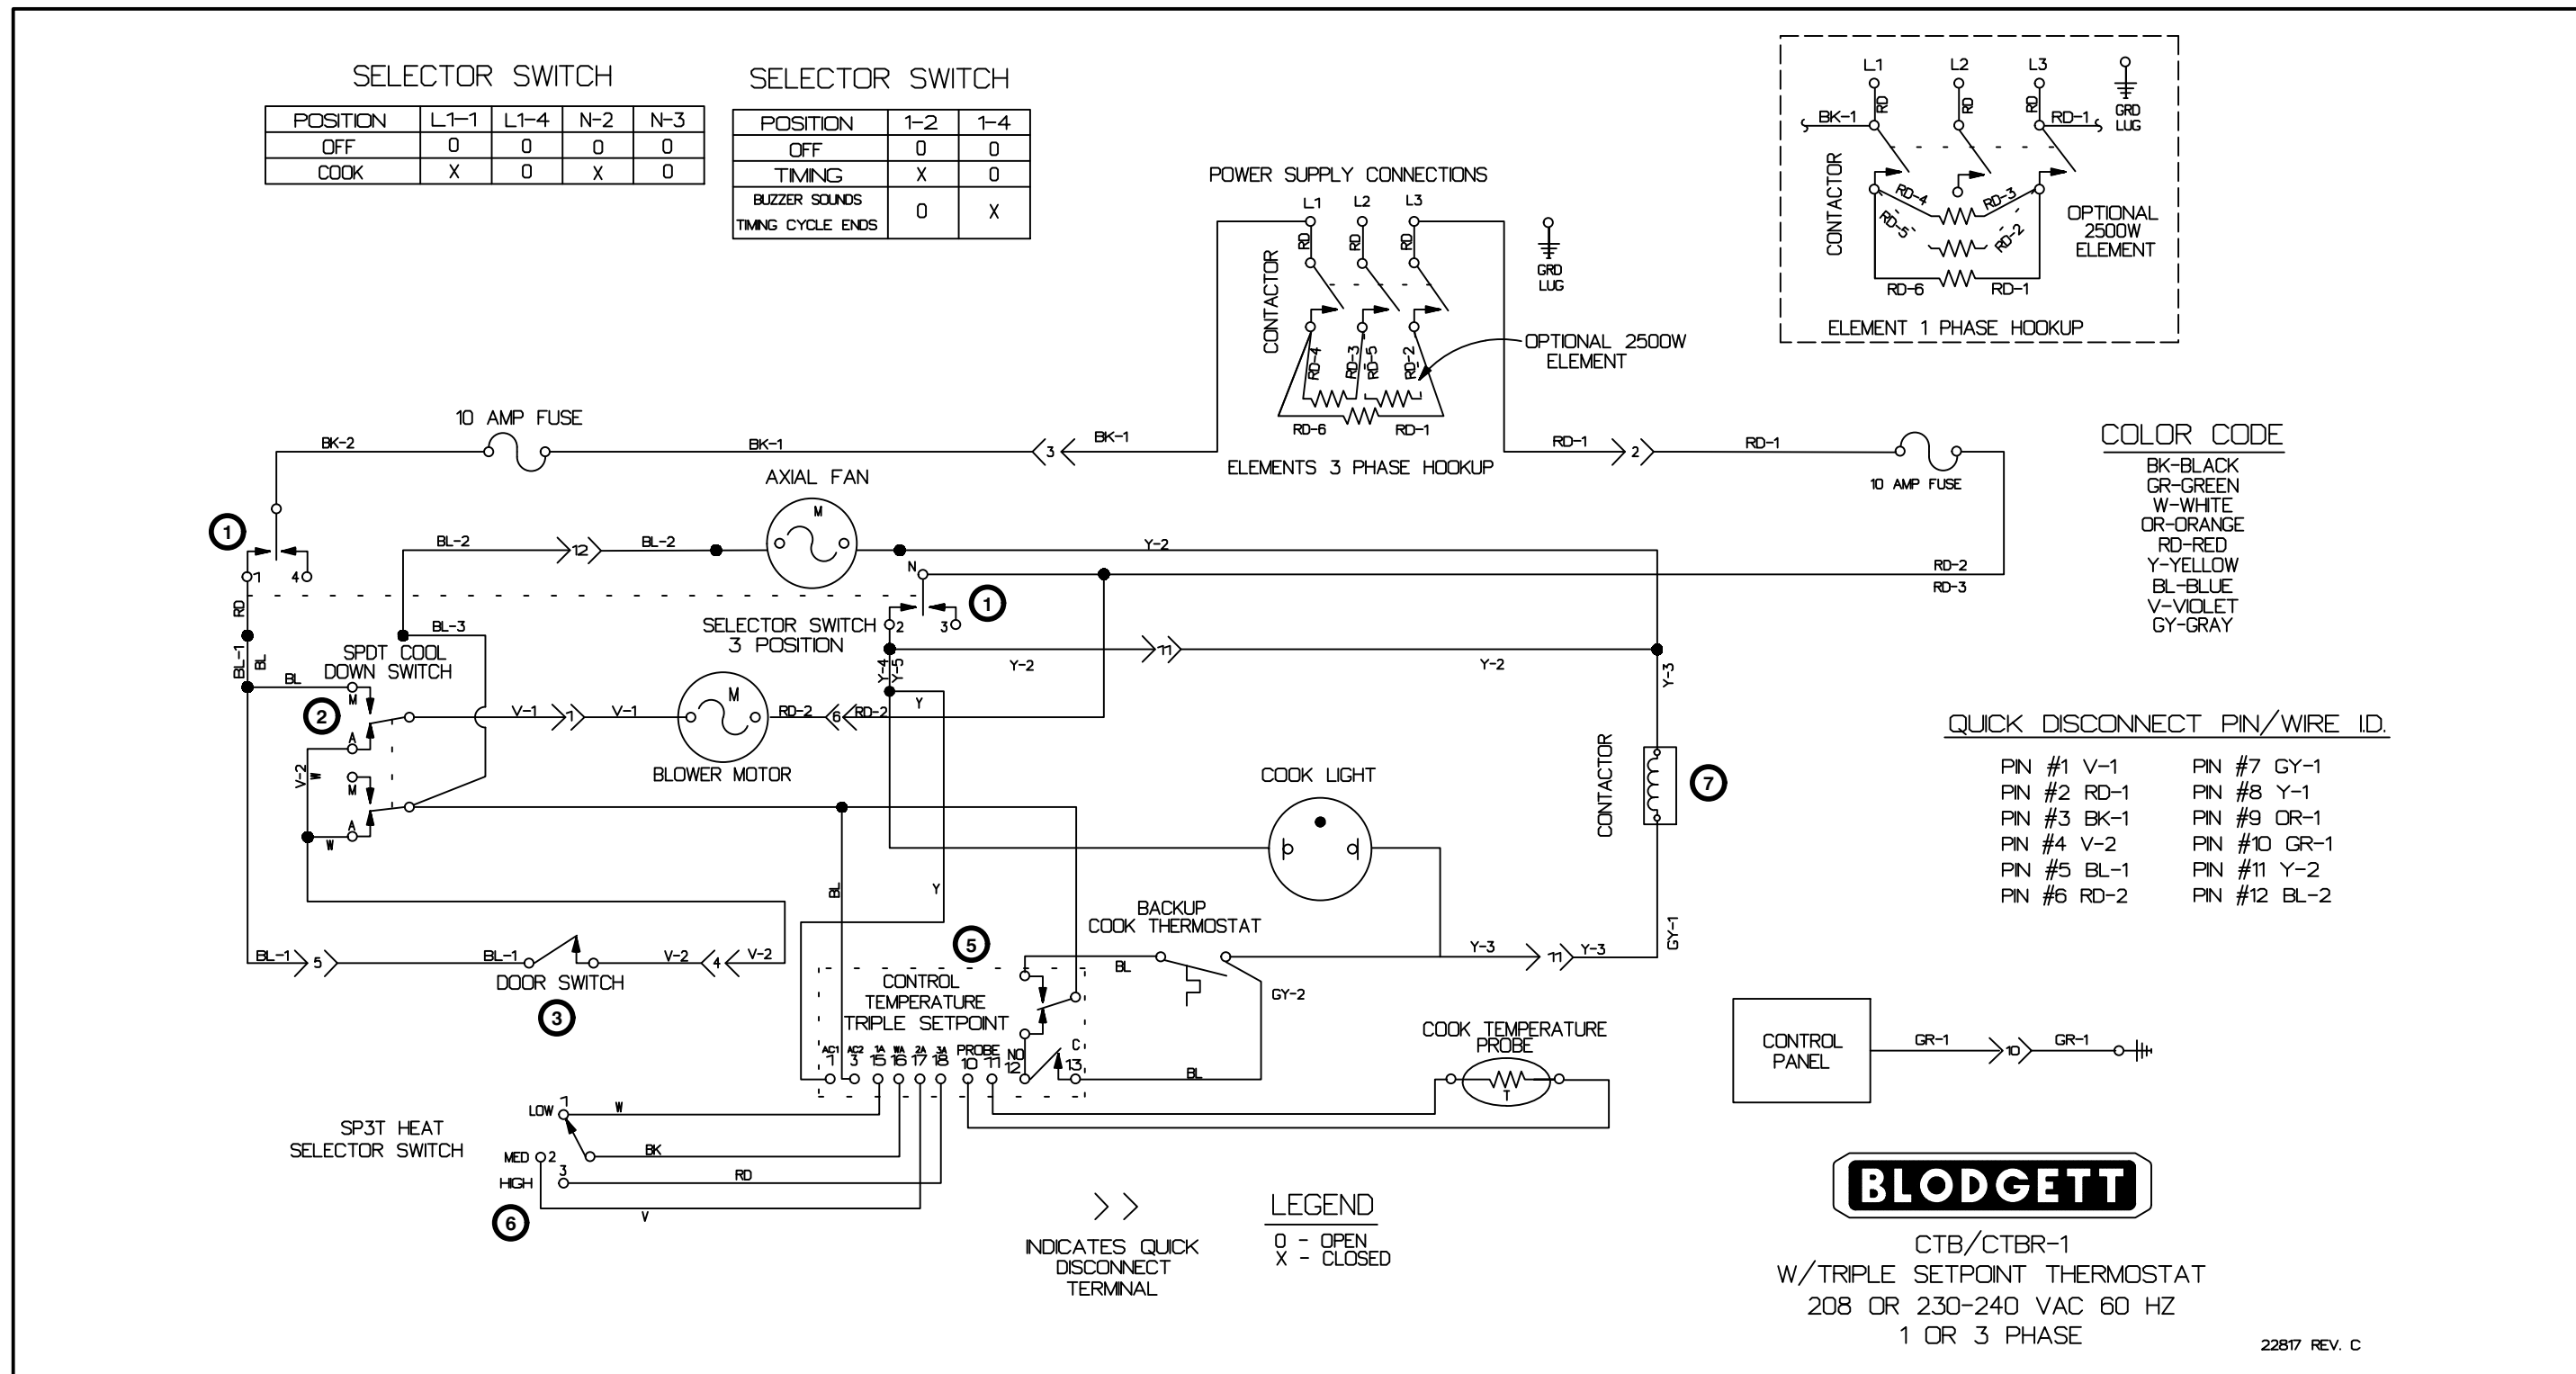

FIGURE 14
*NOTE: Refer to FIGURE 14 page 3–14 for component locations.*
1. Power is delivered to various components through the mode selector switch (1). When the switch is turned to the cook position, power is delivered to one terminal of a single pole double throw cool down switch (2) and the door switch (3).
3. When the switch is in the position shown in FIGURE 14, power is delivered to both the blower motor (4) and to terminal 3 of the triple set point temperature control board (5).
4. If the triple set point selector switch (6) is above actual temperature, a set of contacts closes in the control board sending power to the coil of the mercury contactor (7).